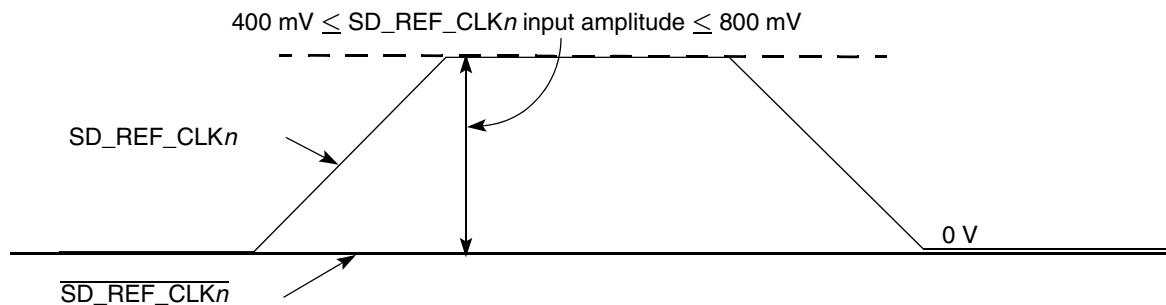

Figure 36. Single-Ended Reference Clock Input DC Requirements
- The SD_REF_CLKn input average voltage must be between 200 and 400 mV. Figure 36 shows the SerDes reference clock input requirement for single-ended signaling mode.